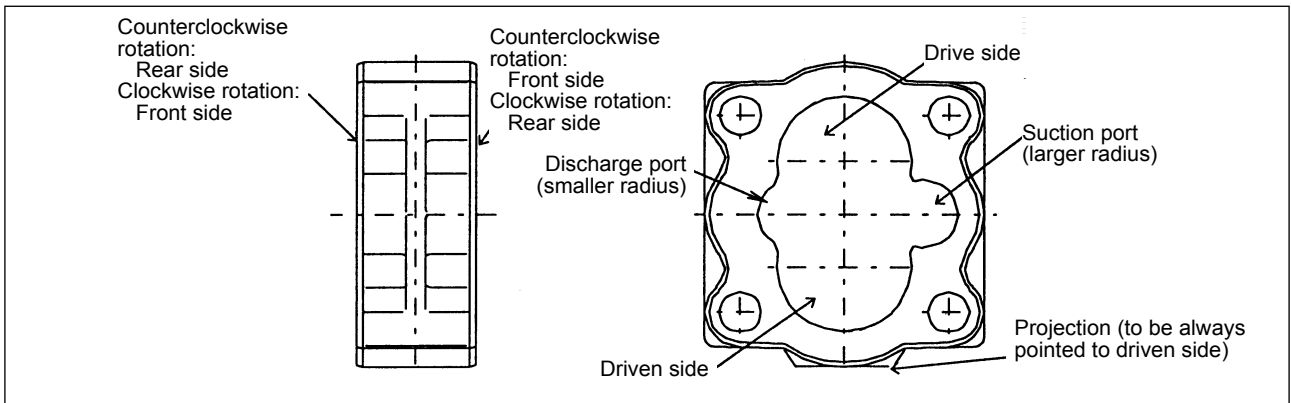

Fig. 3.405
- ⑭ Install the pump body half 2 (1) on the adapter (2), referring to Fig. 3.405.